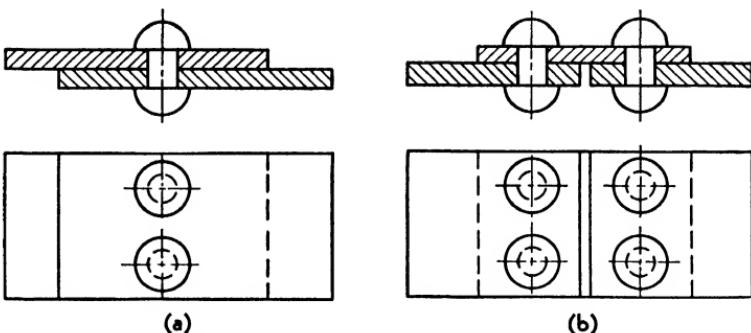

Fig. 232.—Types of riveted joints: (a) lap joint; (b) butt joint.
C. Riveted Joints. There are two main classifications of riveted joints: lap and butt joints, as illustrated in Fig. 232.